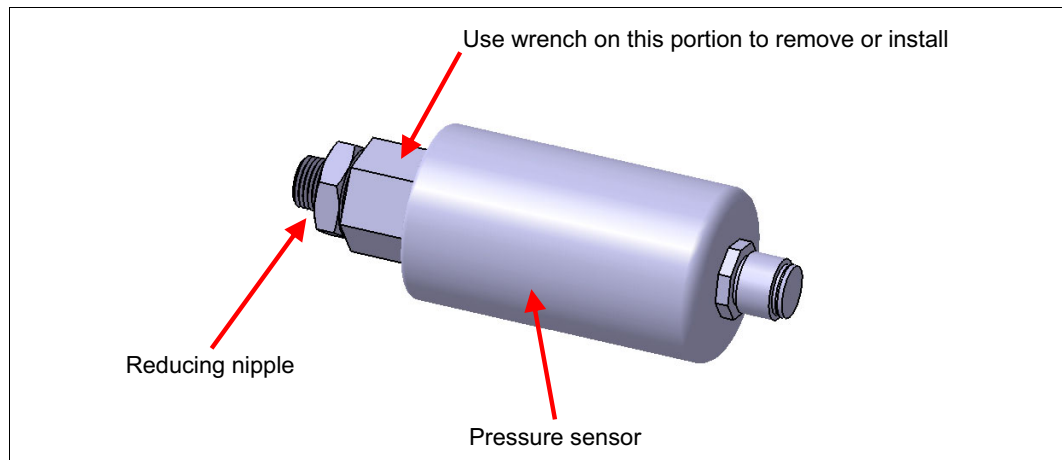

Figure 4-42 Pressure sensor and reducing nipple combination⁵
13. Using a 21 mm open-ended wrench (or a crescent wrench), remove the pressure sensor and reducing nipple combination. The FRU that is removed looks like the hardware that is shown in Figure 4-42.